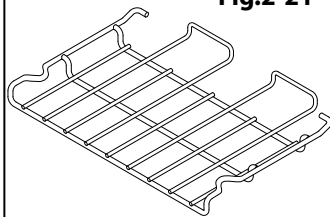

Fig.2-22
- 1 telescopic shelf with runners (**Fig.2-22**)